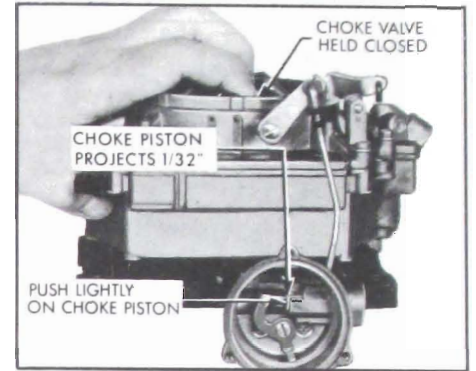
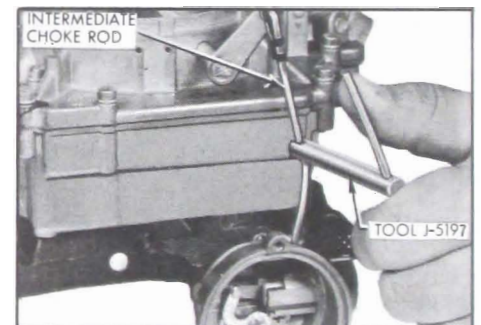

Figure 3-68—Checking Choke Piston Adjustment
Figure 3-69—Adjusting Choke Piston
12. Choke Piston Adjustment. With choke valve held tightly closed, and with choke piston pushed lightly toward its cylinder (to take up any linkage slack), check to see that choke piston is projecting from cylinder 1/32". See Figure 3-68. If adjustment is required, bend intermediate choke rod using Tool J-5197. See Figure 3-69.